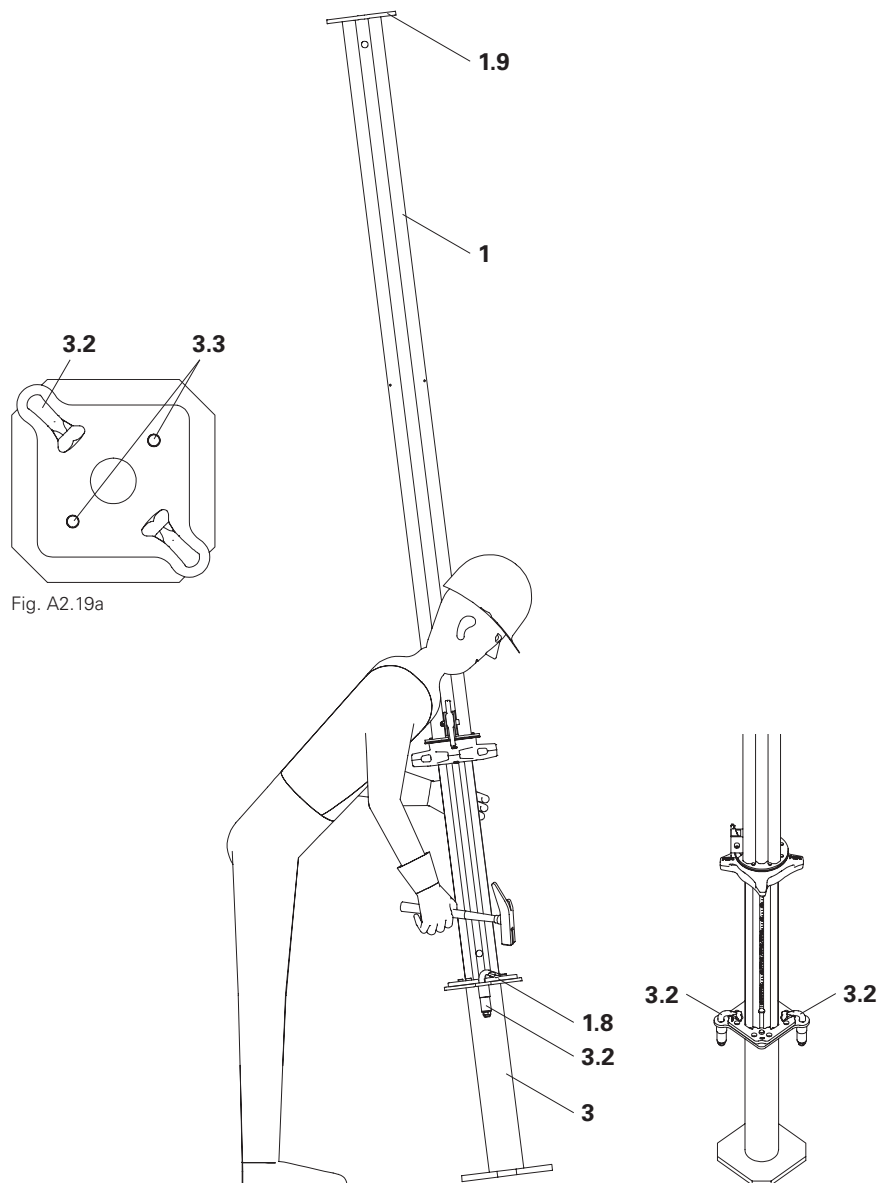

Fig. A2.19
3. Hit Clamping Claws (3.2) with a hammer over the Base Plate or Head Plate of the MULTIPROP MP (1). (Fig. A2.19)
- Base MP 50 (3) is connected to MULTIPROP MP (1).